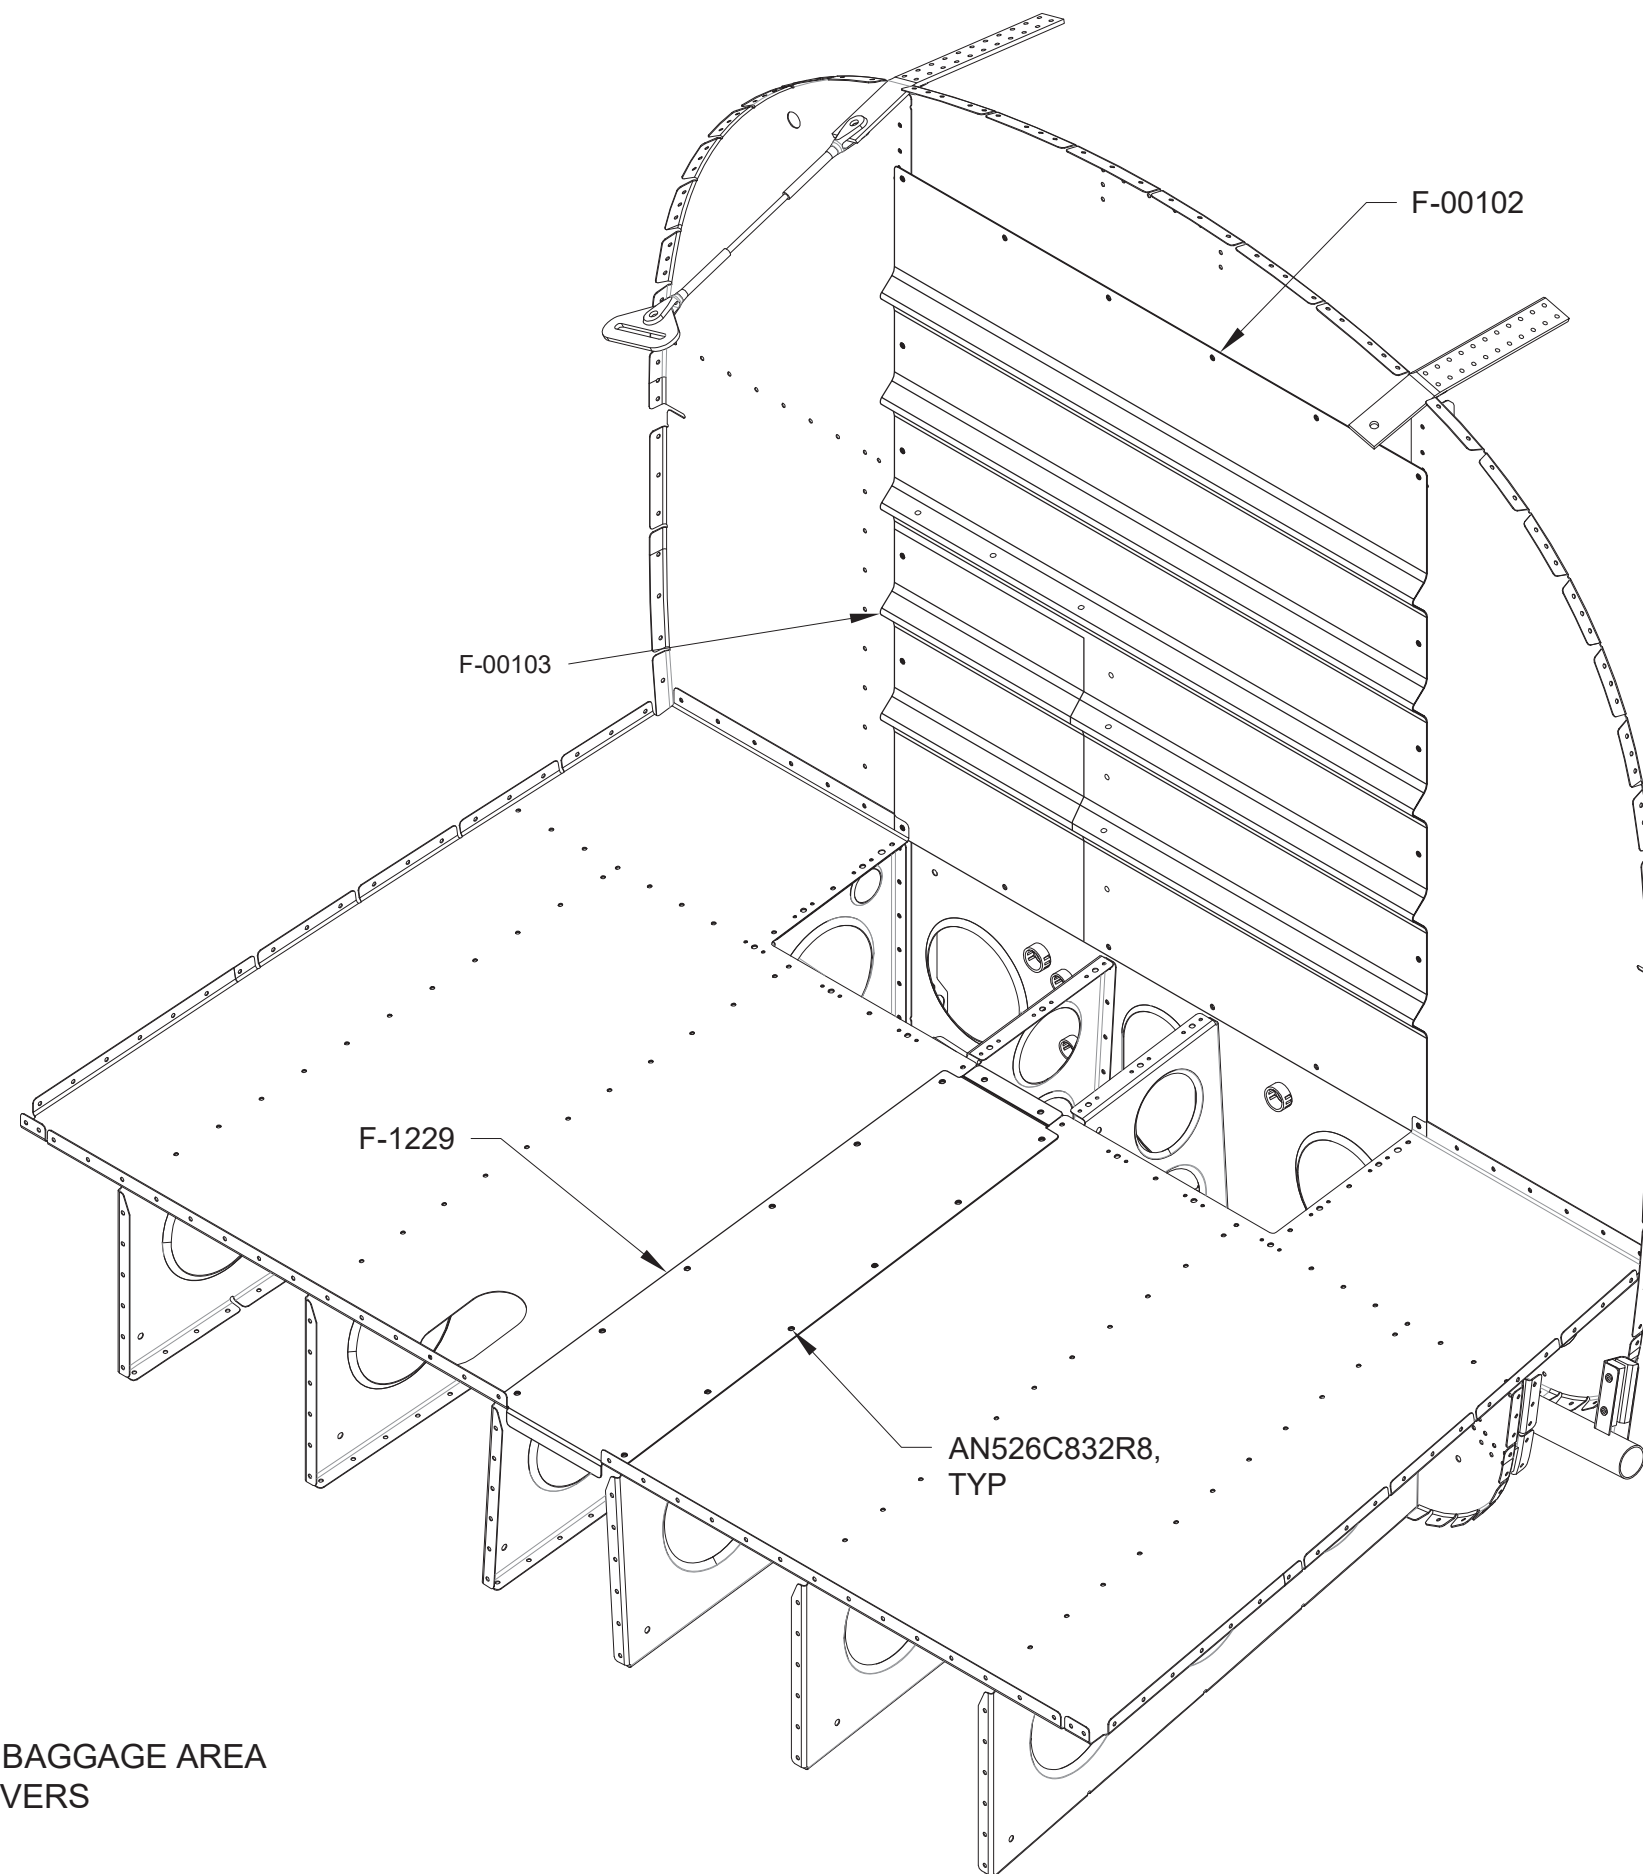

FIGURE 1: INSTALLING BAGGAGE AREA ACCESS COVERS
Step 1: Install the F-1229 Baggage Floor Cover, and the Baggage Bulkhead Corrugation Assembly using the hardware called out in Figure 1.
Step 1: Test fit the F-12119B Anti-abrasion Strip to the F-1205A Mid-Fuse Brace. The top and front surfaces of the mid-fuse brace are covered as shown in Figure 1. With an ultra-fine felt tip marker and a straight edge, make a line on the top of the mid-fuse brace forward of the aft edge as shown in Figure 1.